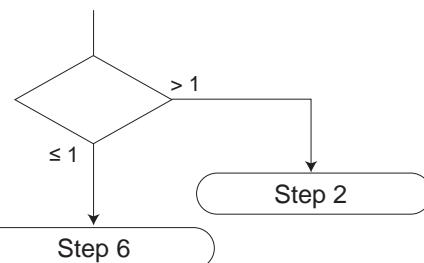

Figure 3 Allowable W1, W2 and W3 loads for SRM3-40 and 63
- Divide each load by the allowable value read from Figure 3 to Figure 8 to find load/moment ratio, and confirm that the total value is 1.0 or less.